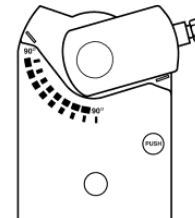

FIGURE 13
- a. Insert the shaft adapter to the right as close as possible to the raised stop. Figure 13.